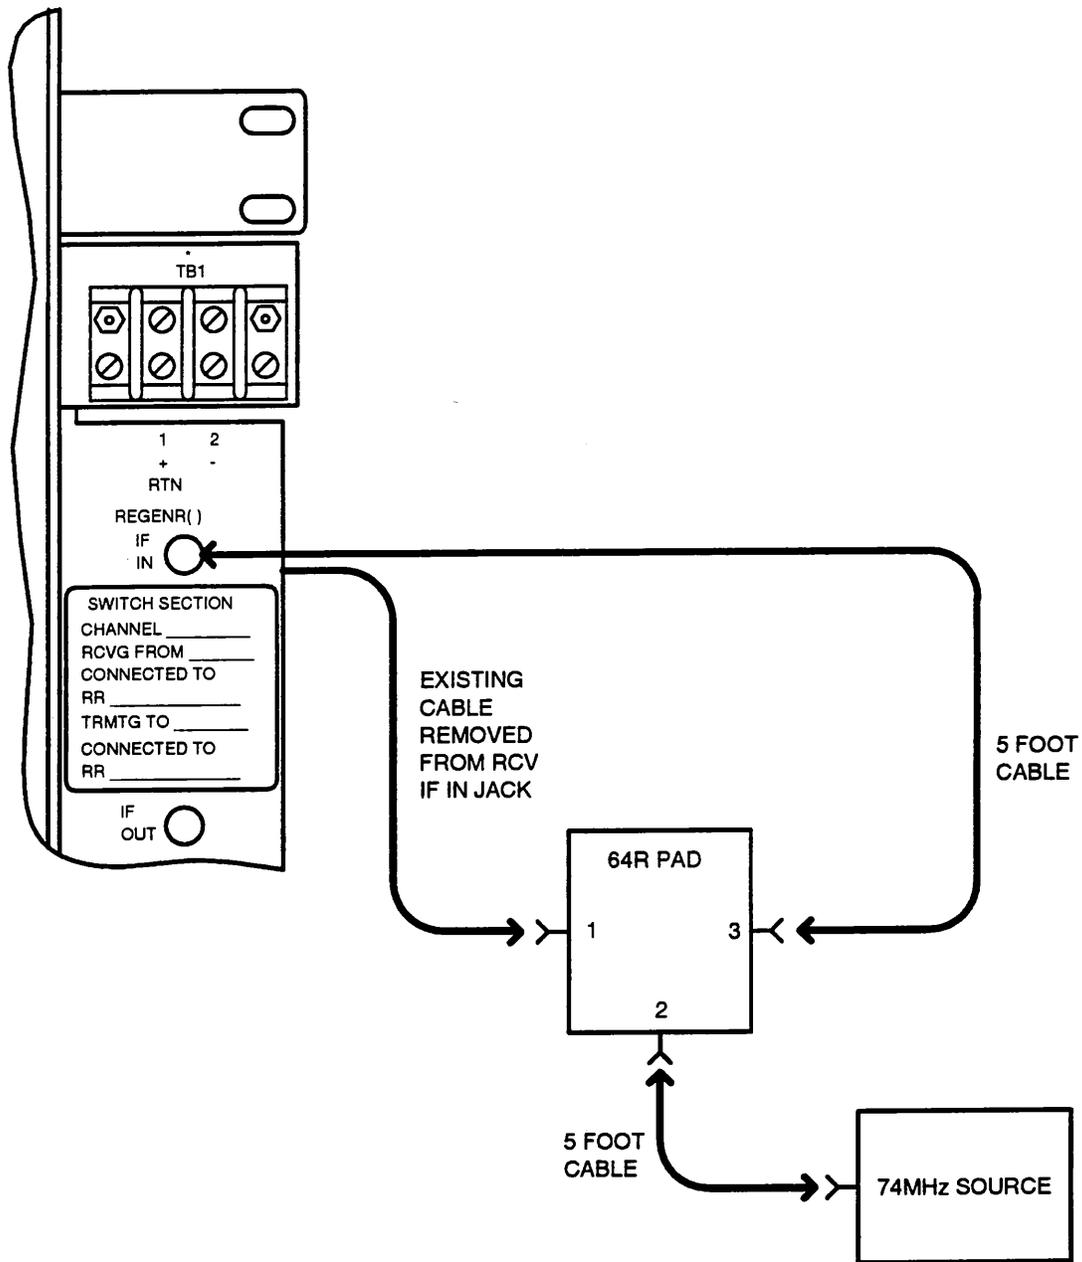

Figure 5—Regenerator Over-the-Air S/I Stress Check Test Connections
The test configuration used for this evaluation is shown in Figure 5. An unequal loss combining network is inserted in the coaxial IF input path to the digital regenerator receiver for the hop and channel under test. The normal IF input signal is connected through the low-loss path of the combining network, and an adjustable level 74-MHz interference tone is injected into the IF input signal by the high-loss path. For evaluation, a specified S/I ratio is established by independent power measurements of the "S" and "I" components at the output of the combining network corresponding to the digital receiver IF input.
Note: Determine the test cables to establish the setup shown in Figure 5; then keep the same cables for all tests in this procedure.
Establish the "S+I" Test Connections (Figure 5)
7. Make test connections as shown in Figure 5.